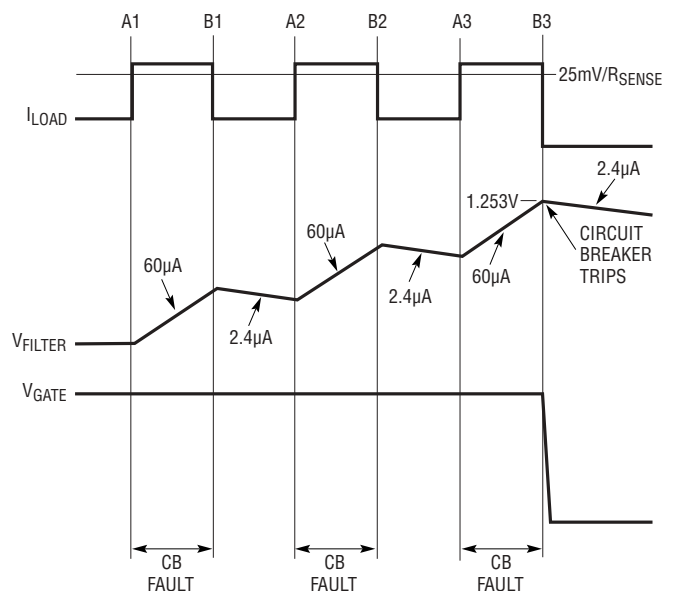
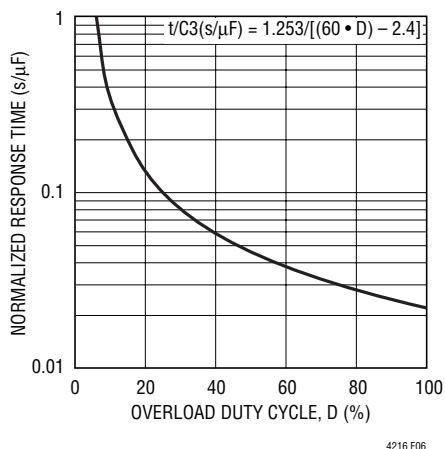

Figure 5. Multiple Intermittent Overcurrent Condition
Figure 6. Circuit Breaker Filter Response for Intermittent Overload
Intermittent overloads may exceed the current limit as in Figure 5, but if the duration is sufficiently short, the FILTER pin voltage may not reach the $V_{FILT(TH)}$ threshold and the device will not shut off. To handle this situation, the FILTER discharges with 2.4µA whenever voltage across the sense resistor is below 25mV. Any intermittent overload with an aggregate duty cycle of more than 4% will eventually trip the circuit breaker. Figure 6 shows the circuit breaker response time in seconds normalized to 1µF as given by Equation (3). The asymmetric charging and discharging of FILTER is a fair gauge of MOSFET heating.